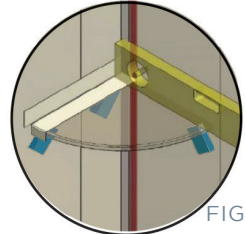

FIG.23
**IMPORTANT:** Rubber wedge must be pressed into channel lightly from top to bottom before pushing right in. This method ensures rubber wedge does not set stretched and then shrink later (FIG 23).
- Place the shelf in position to confirm that it is level. If required, adjust the stabiliser blocks to suit. Optional - apply insulation/gaffa tape to shelf/wall to prevent bleeding of the adhesive onto the wall or shelf.(FIG 23).